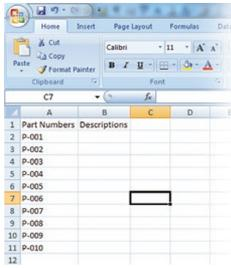
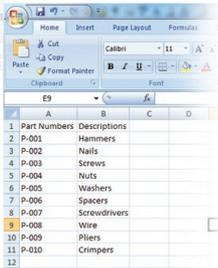

**FIGURE 3** Enter two rows of numbers ...
**FIGURE 4** ... then drag your cursor the number of cells equal to the total number of labels in your sequence.
- A.** Enter your first two sequential numbers in cells A2 and A3 (Fig. 3). Select cells **A2** and **A3** and place your cursor over the little box in the lower-right corner of the selection. Your cursor becomes a “+.” Now click and drag the selection down the **number of cells equal to the number of labels** in the sequence (Fig. 4).